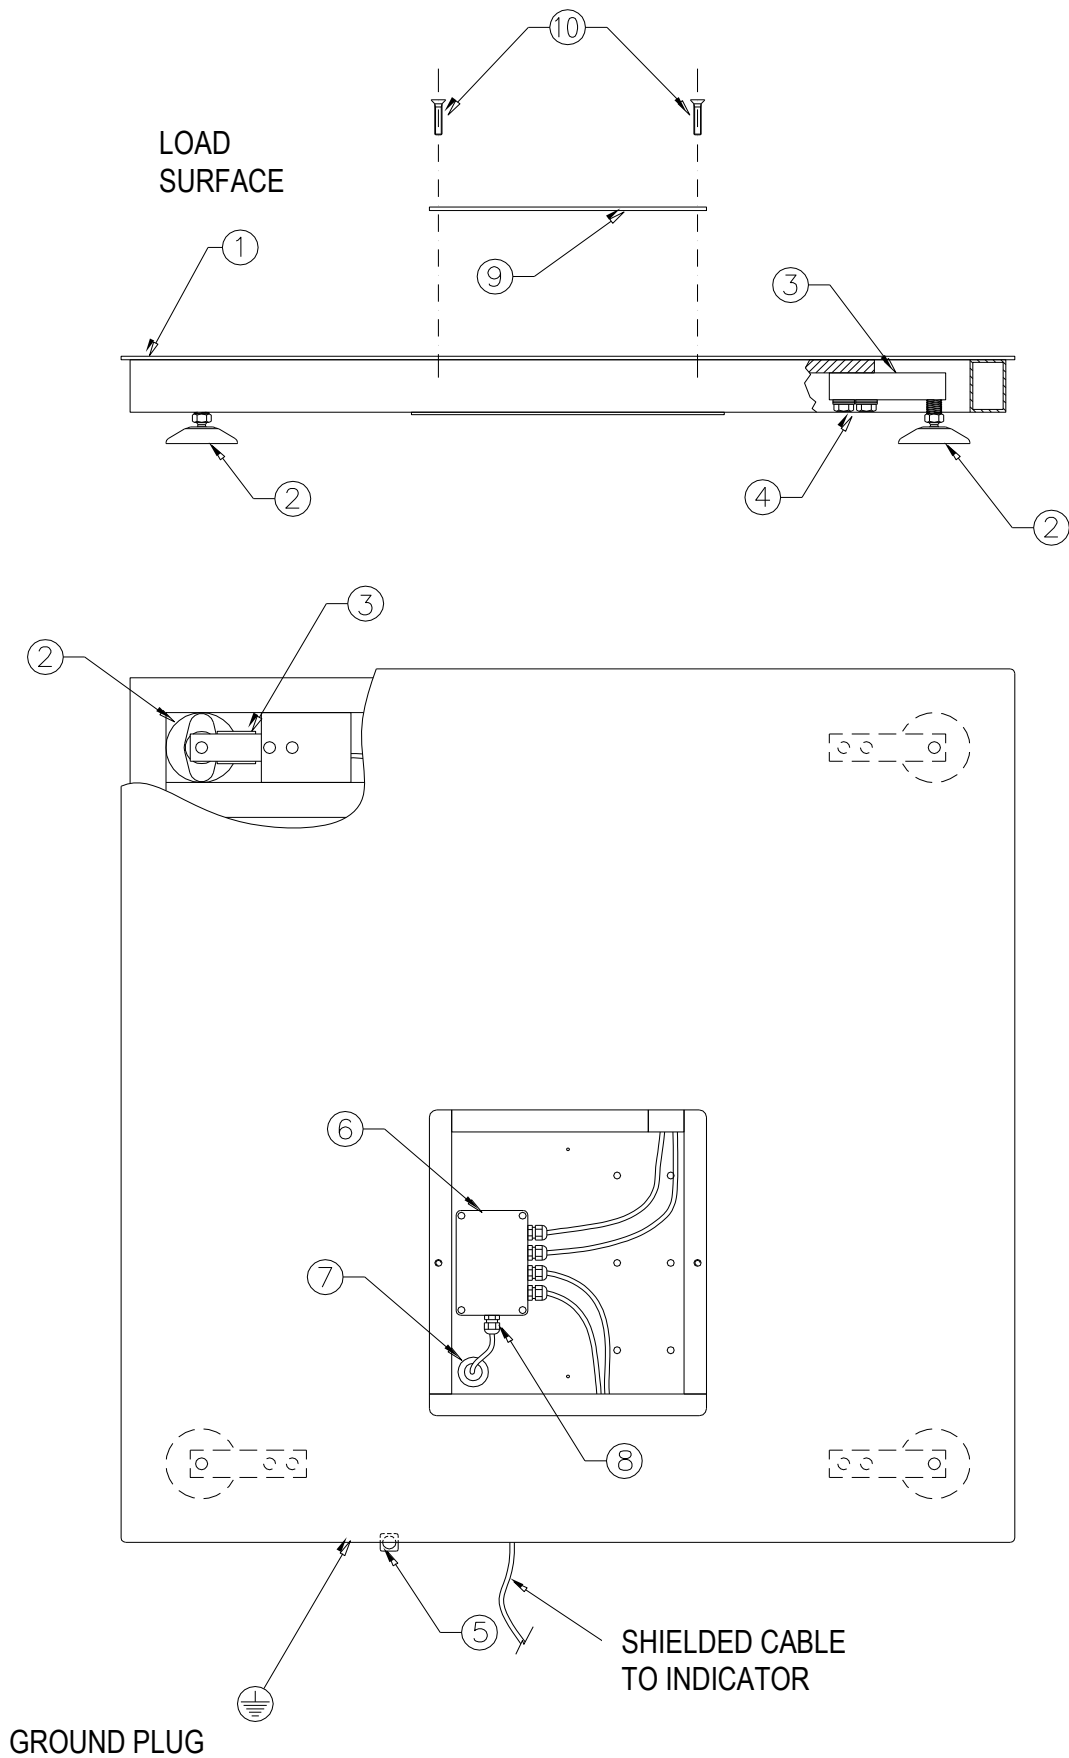
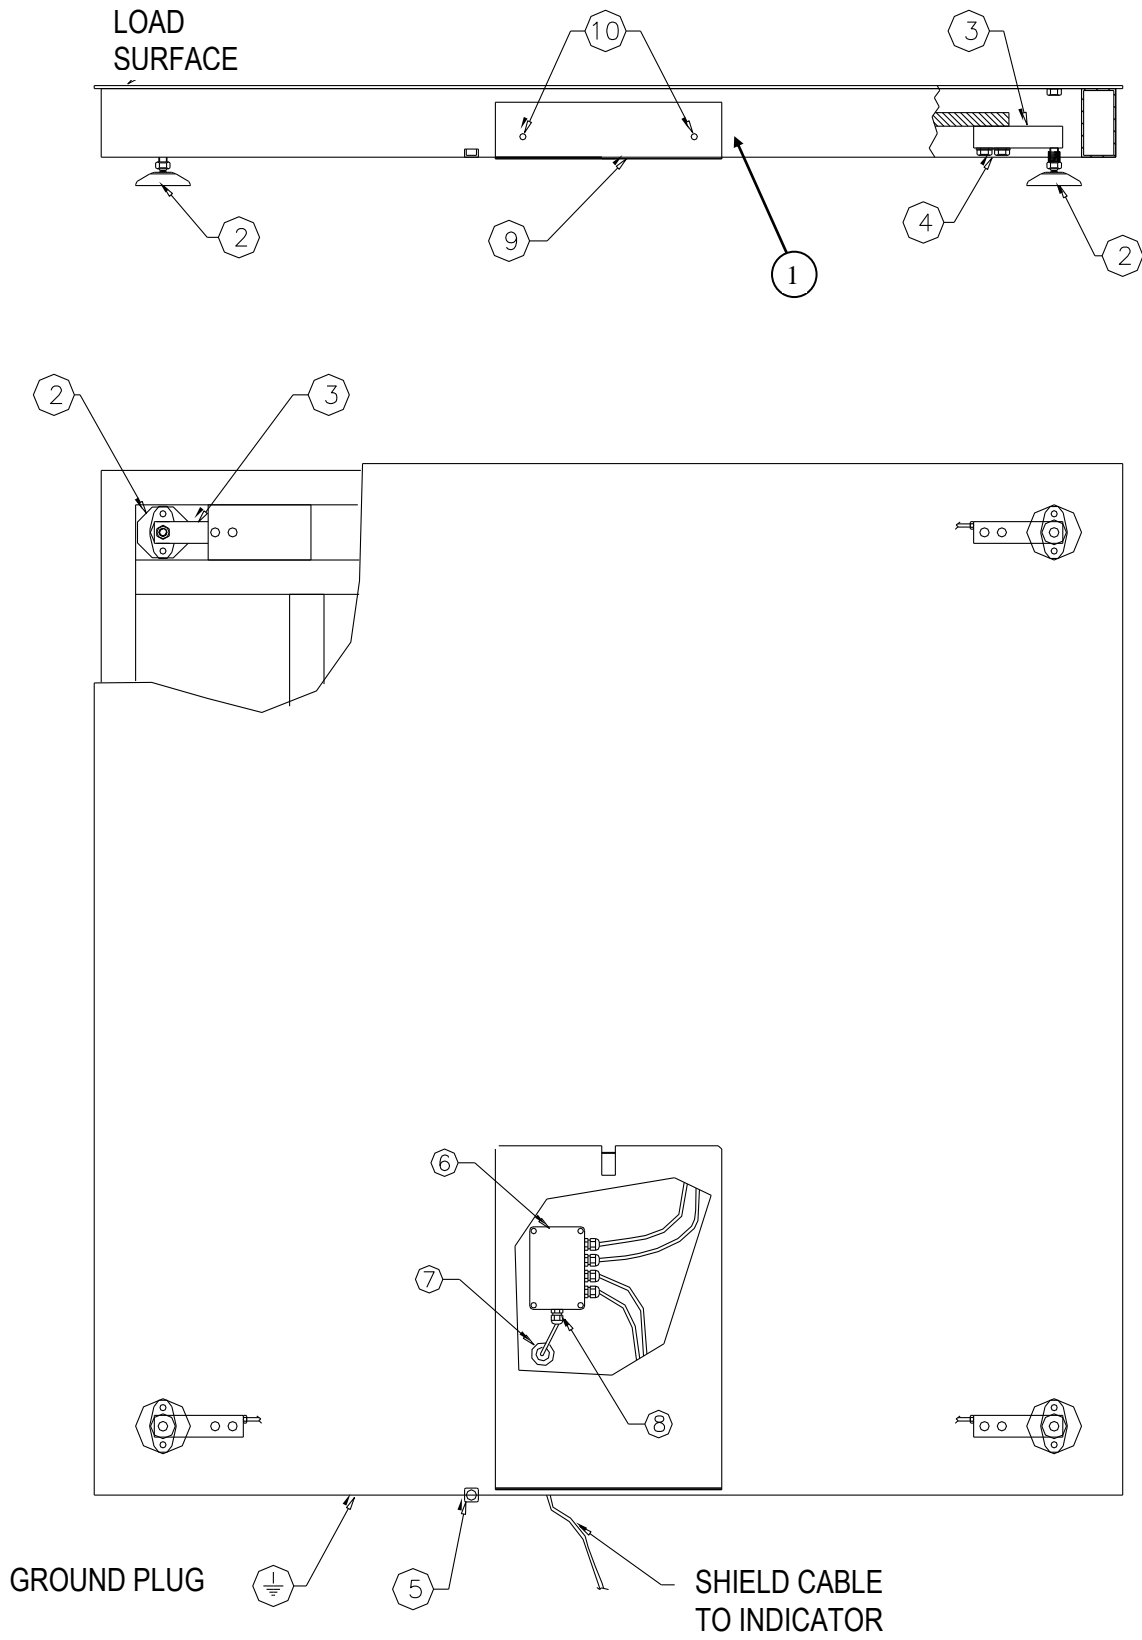

Fig. 1
Fig. 3
Refer to fig.1 (paragraph 6.1), fig.3 (paragraph 6.3) or fig.5-6 (paragraph 6.5) when positioning the platform on the floor.
- c) Open the trapdoor on the ET platform (located on the load surface, detail 9 fig.1) or the drawer on the EL platform (located on the side of the platform, detail 9 fig.3), by removing its screws (10), and pass the screened cable connected to the junction box (detail 6, fig.1 and fig.3), through the hole (7) under the platform and connect it to the indicator.
- d) Reposition the trapdoor on the ET platform (9 fig.1) or the drawer on the EL platform (9 fig.3) in its place (1) using its screws (10).